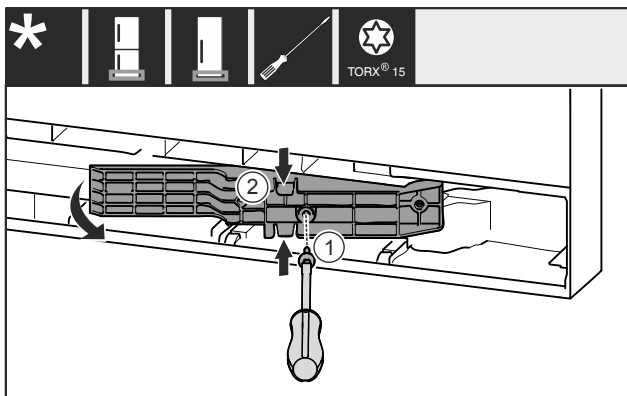

Fig. 20\*
- ▶ Remove the screw Fig. 20 (1).\*
- ▶ Gently press the top and bottom of the adapter piece Fig. 20 (2) together and pull it out.\*